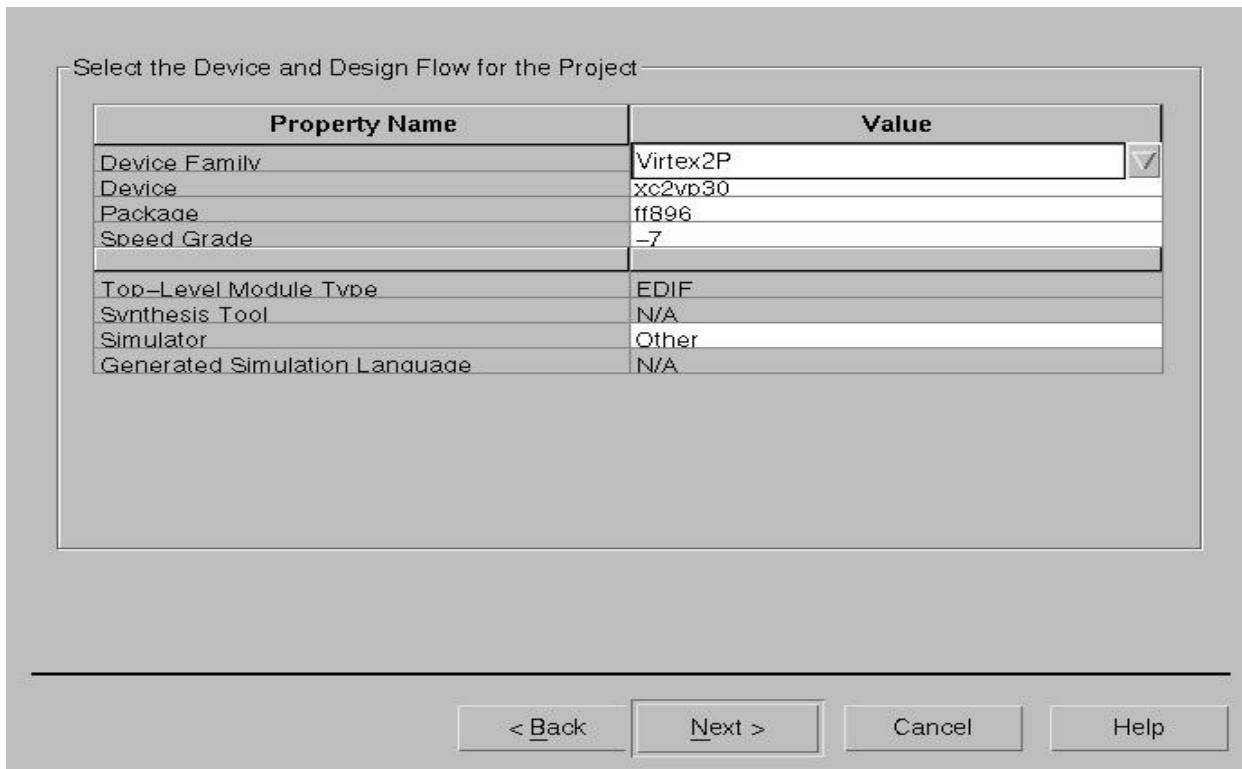

Figure 24: Specifying the Device.
(5) You must now specify which device you want to use. Refer to Figure 24 and **specify the following in the form:**